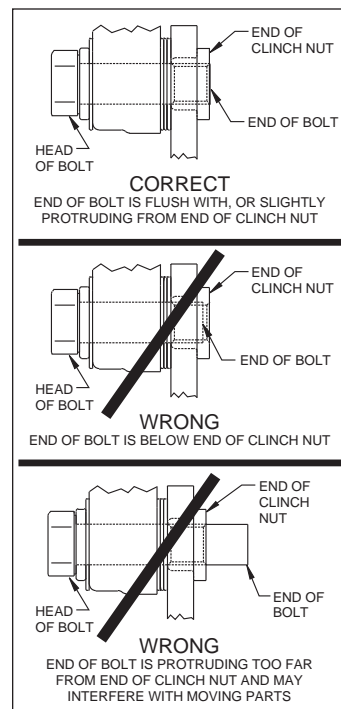

Figure 6. Clinch Nut Engagement Diagram
- Make sure this is the correct kit to fit the axle housing flange, not necessarily the rear end make. Many times aftermarket manufacturers put a different make of axle housing flange on the stock rear end housing (Figure 6). Example; Big Ford rear ends with Olds-Pontiac flanges, therefore, an Olds-Pontiac rear disc brake kit would be the correct kit to order. Also, shock clearance may be a problem. They may have to be modified and/or relocated to clear the Wilwood kit after final assembly.
- Dimension from wheel side of axle flange to wheel side of axle housing flange (see Figure 6, lower right hand corner). This dimension is critical to ensure proper alignment of the rotor to the caliper, and should match offset given in the kit description.